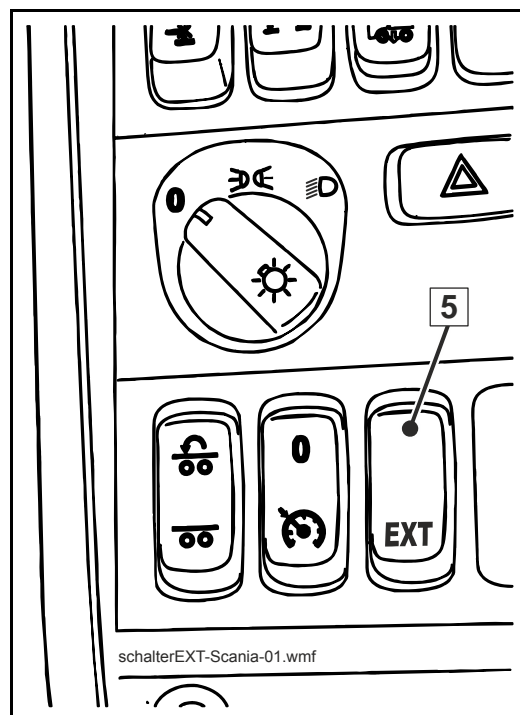

Fig. 43 SCANIA "EXT" switch
- Switch on the VECTOR control system using switch 5 (Fig. 43 SCANIA "EXT" switch).
Caption (Fig. 43 SCANIA "EXT" switch)